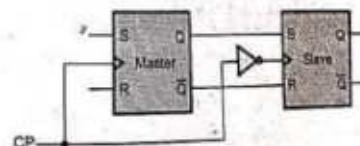

Fig. 5.4.23 Master-Slave SR flip-flop
- Fig. 5.4.23 shows SR master-slave flip-flop.